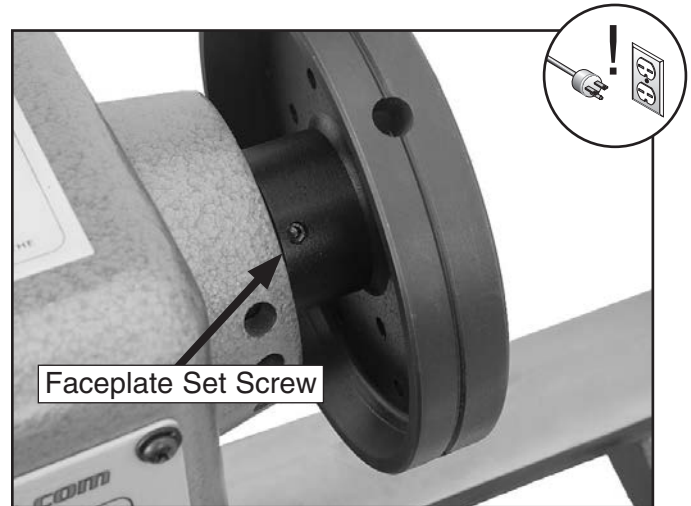

Figure 30. Headstock faceplate set screw.
4. Using the included 4mm hex wrench, tighten the three set screws along the inside diameter of the faceplate to secure it to the spindle (see **Figure 30**).